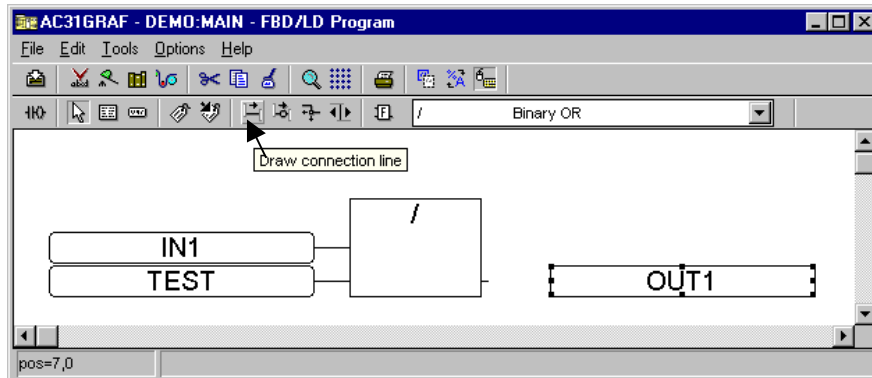

Figure 2-11 : Linking the variables and the function block
- ⇒ Select the  "Draw connection line" icon in the program editor window (Figure 2-11) and draw a line, without releasing the mouse button, between the "IN1" variable and the block.